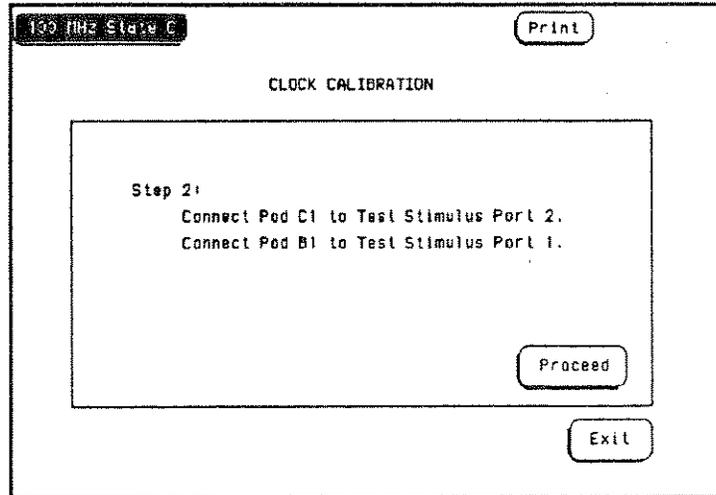

Figure B-9. Master Clocking Calibration Step 2
5. Figure B-9 shows step 2 in the calibration. Move the master card pod to test stimulus port 2, connect pod 1 of the first expansion card to be calibrated to test stimulus port 1, the touch **Proceed**.